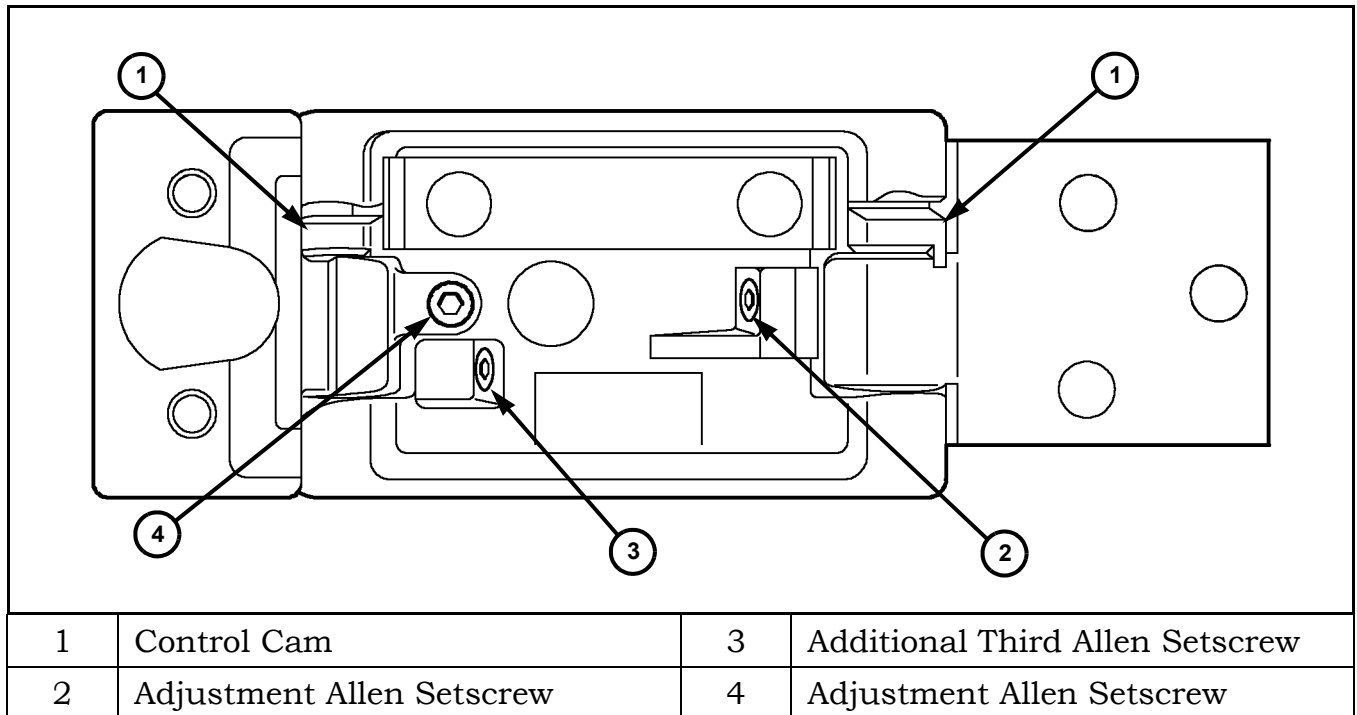

Figure 25 Rear Hinge Adjustment Setscrews
12. Check and adjust the hinges. On rear doors, the retaining magnets should run up to the middle of the mating plate at the side wall. If this is not the case, correct as listed (Figure 25).
NOTE: There are two adjustment allen setscrews on each rear door hinge. In some cases, an additional third allen setscrew may be found (Figure 25).
CAUTION: Do not overadjust the allen setscrews (risk of control cam breaking). The adjustment range of the allen setscrews is 1 turn **MAXIMUM**. See Figure 25.